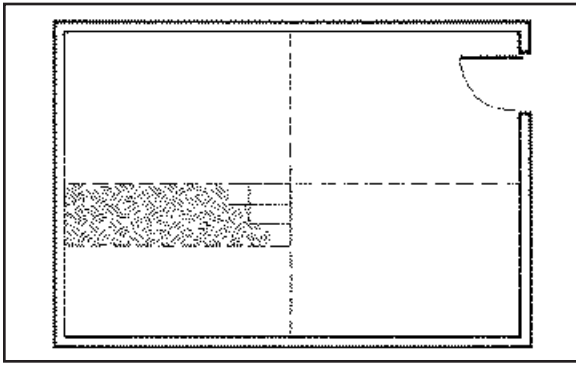

Fig. 5.
1. Start installing tile at the center of the room working out toward the walls (Figure 5).